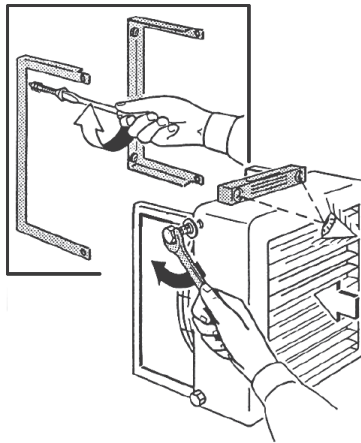

Figure 5. Wall-Mounting Heater
1. Determine installation height and secure field-supplied brackets to wall as shown in **Figure 5** using field-supplied hardware.
2. Raise heater using suitable hoist or lift and secure heater to brackets as shown in **Figure 5** using M8 metric screws and flat washers provided.